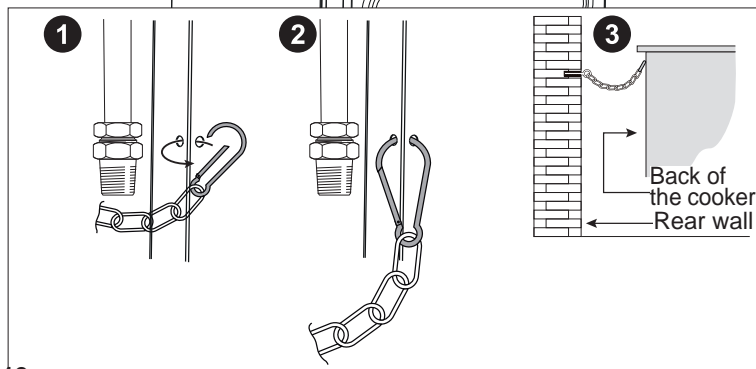

Figure 12
- The connection must be made at the rear of appliance; the pipe does not cross the cooker (fig. 12).